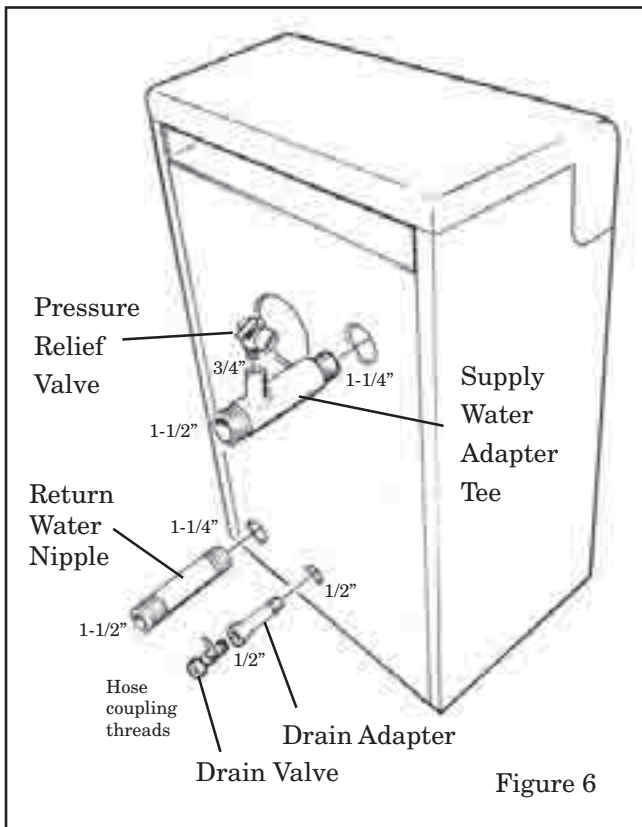

Figure 6
- a) The threads in the heat exchanger casting are 1-1/4" NPT female. Supply and Return nipples that ship with the boiler are 1-1/2" NPT male x 1-1/4" NPT male. See Figure 2 and Figure 6.
- b) Boiler drain requires installation. See Fig. 6.
- 6) Install factory provided piping items as shown in Figure 6. These include the supply water adapter tee, the pressure relief valve, the return water nipple, the drain adapter, and the drain valve.